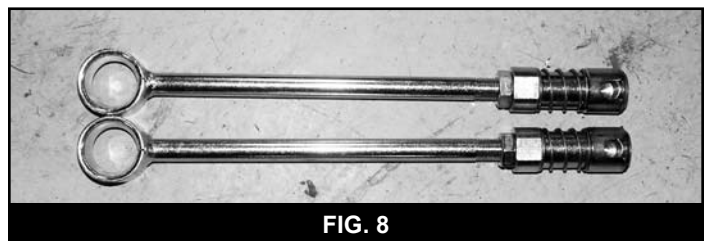

FIG. 8
24. The BDS front sway bar disconnects (A100) come pre-assembled with the hourglass bushings installed (Fig 8). Lightly grease and install the provided sleeve (45313) in the sway bar link bushings.